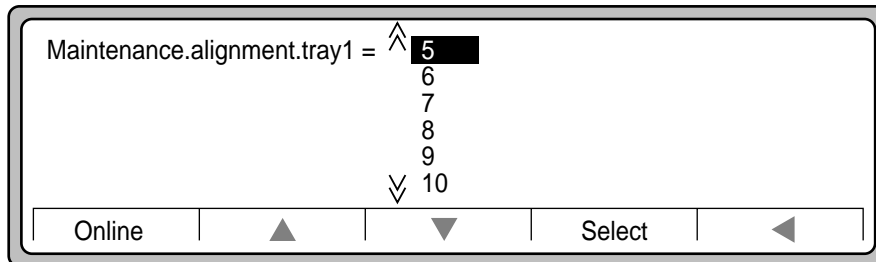

Figure 6-17 Tray1 values
7. Press either **▲** or **▼** to highlight the tray1 new value calculated on the Simplex feed alignment ruler sheet. The selection range is from -25 to +25, (except for duplex lengthwise, which is +7 to -7). See Figure 6-17.